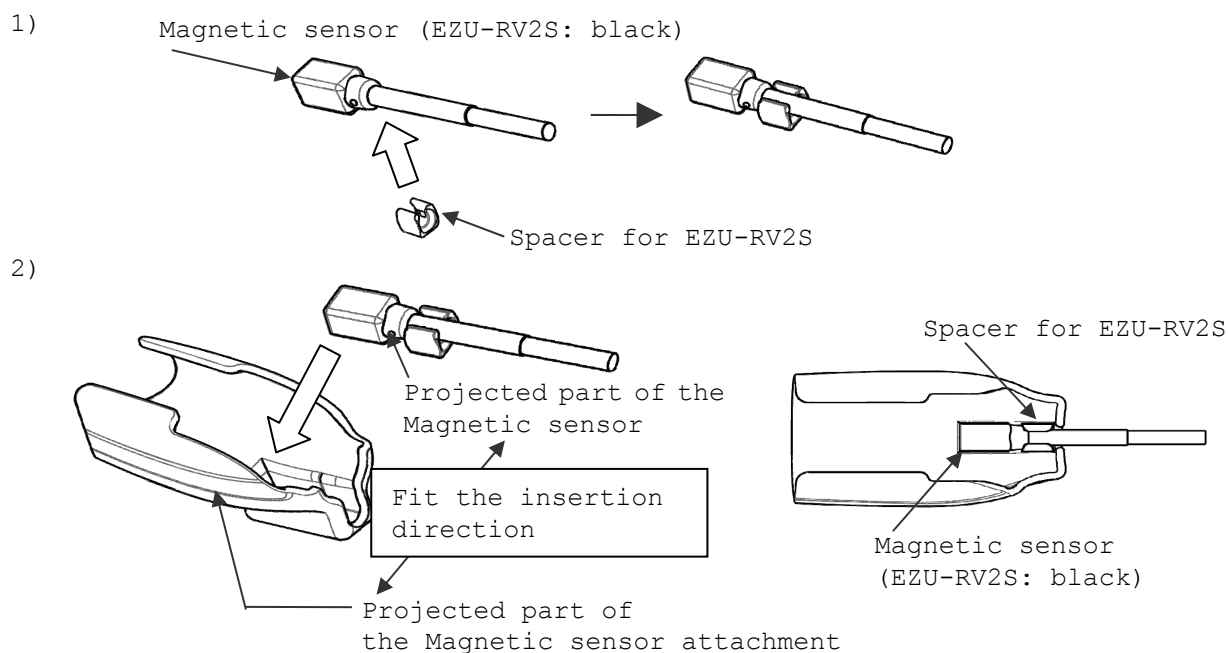

Fig.4 How to attach the Magnetic sensor
- 2) Insert the magnetic sensor (EZU-RV2S) into the magnetic sensor attachment with the correct direction as shown in Fig.4.